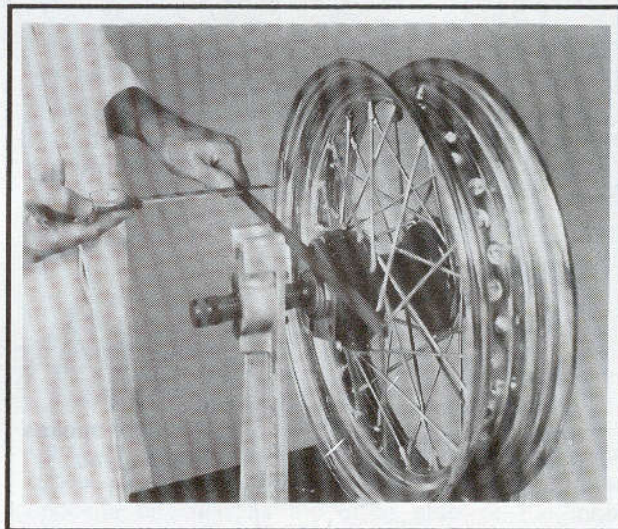

Figure 2-22. Centering Laced Steel Hub
4. **REAR WHEEL:** See Figure 2-22. Lay a straightedge across the hub brake disc flange and one of the marked spoke groups. Measure the distance from the straightedge to the rim as shown. This dimension must be equal on both sides of the wheel. If the dimension is not equal on both sides of the wheel, loosen and tighten the four spokes accordingly. Use SPOKE WRENCH, Part No. HD-94681-80.